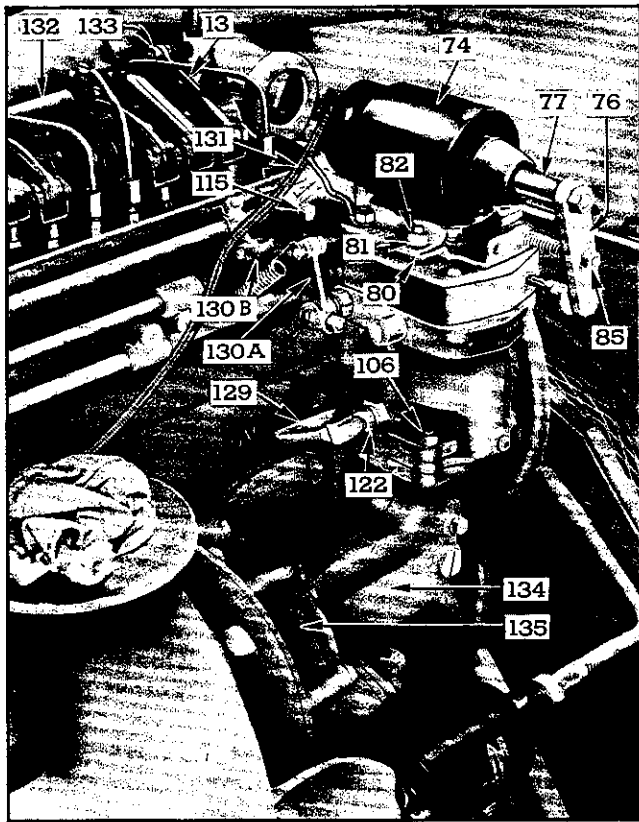
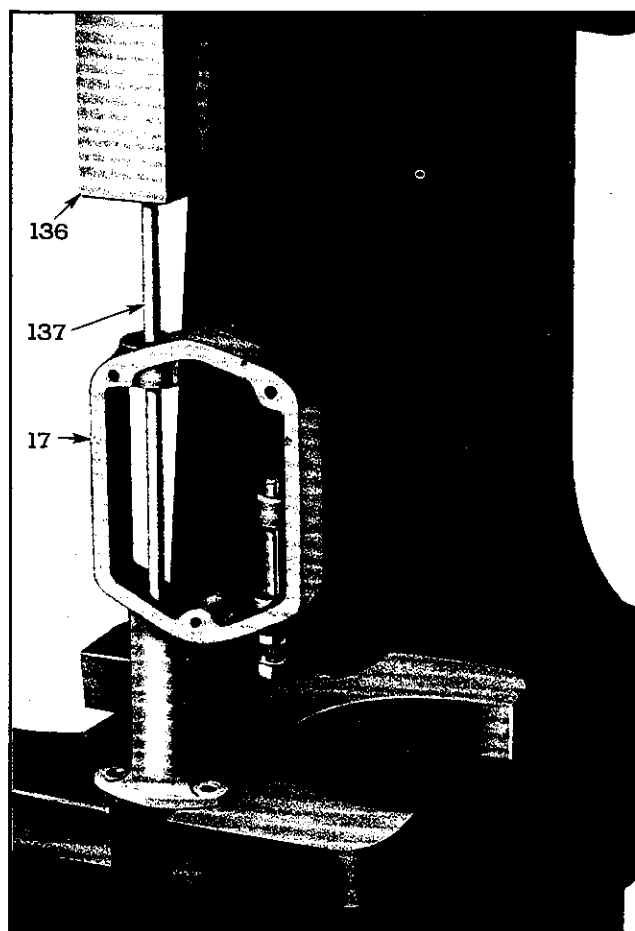

Fig. 36—Governor Mounting.
Fig. 38—Removing Sub-Cap Plug from Sub-Cap.
- Remove the valve rocker cover and the clevis pin which holds the fuel rod (13) to the injector control tube lever (120). (See Fig. 36.)
- (e) If there is any call for doing so, support sub-cap in arbor press with inner end resting on bed of press as shown in Fig. 38 and press sub-cap plug (19) from sub-cap.
- (f) Loosen jam nut (38) and back out maximum fuel screw (64).
2. Remove the nut, lock washer and clamp bolt holding governor control lever (130A), Fig. 36, on speed adjusting shaft (37) and pull lever off shaft.
3. Remove limit pin (1) from speed adjusting lever (120).